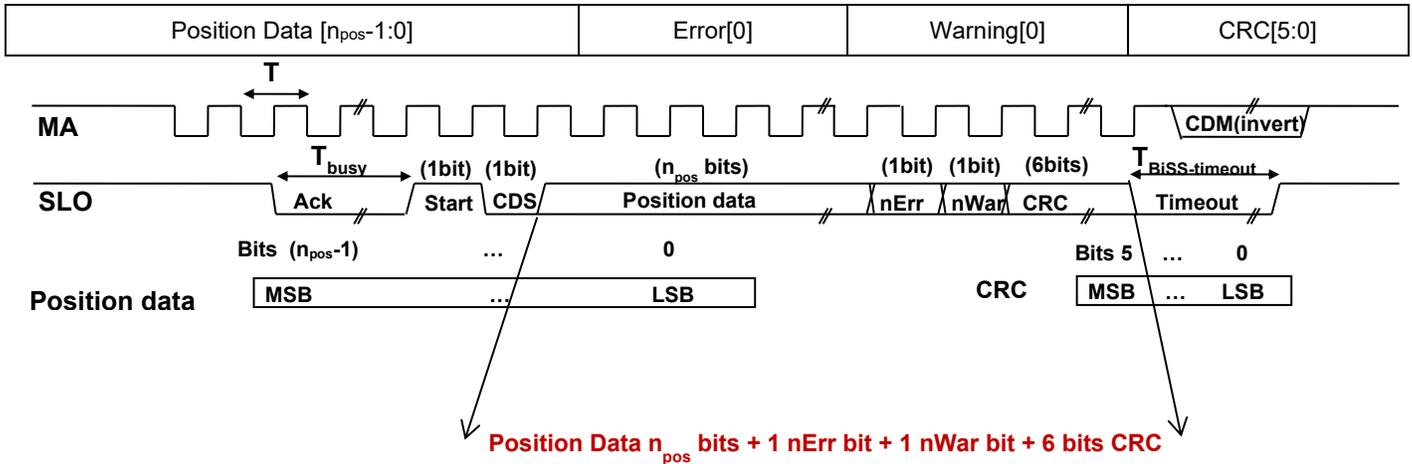

Figure 4 BiSS-C Interface Timing Diagram
1. Refer to Figure 4 for timing description